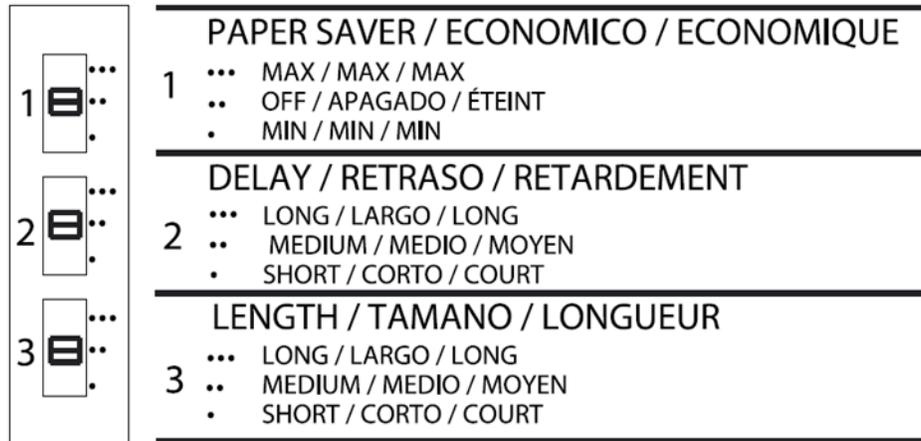

Fig. 8
There are three (3) three-position switches available to customize the control system (Fig. 8). These switches are on the right, inside corner of the mechanism. Once the cabinet door is closed, and the paper is loaded correctly, the unit is ready to dispense at the factory default settings: normal dispense mode, nominal 12" [305] paper length, and a 1 second delay between dispenses. **NOTE: It may take about 3 dispenses for the mechanism to self-adjust to the nominal paper length.**